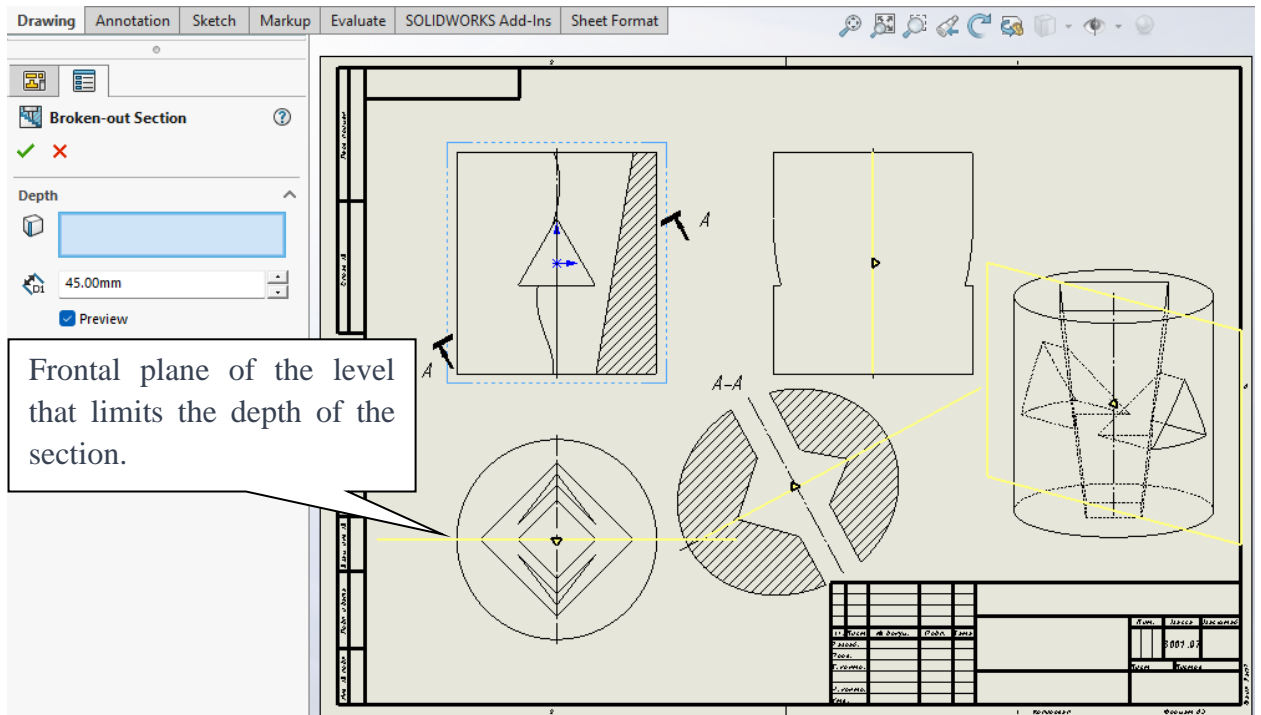

Fig. 4.14.
- On the **Drawing** toolbar, select the **Broken-out Section** button  and specify the depth of the section plane. Then, click OK . The system will generate the front section (fig. 4.14).